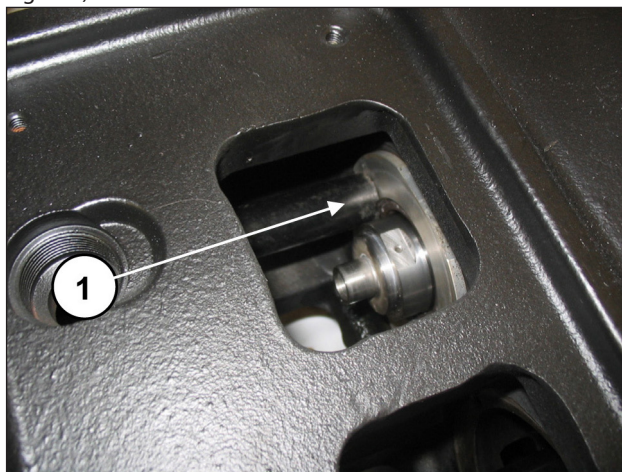
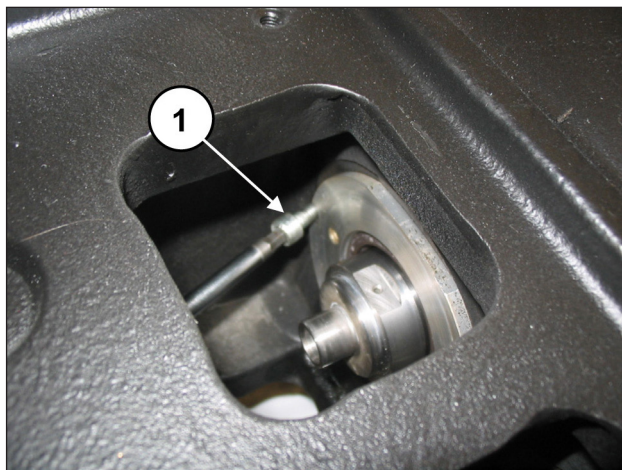

Fig. 132
Fig. 133
Make sure that the cover completely enters its seat (pos. ①, Fig. 132) being careful not to damage the lip of the seal ring. Screw in the oil seal covers using 2 x M6x14 screws (pos. ①, Fig. 133).